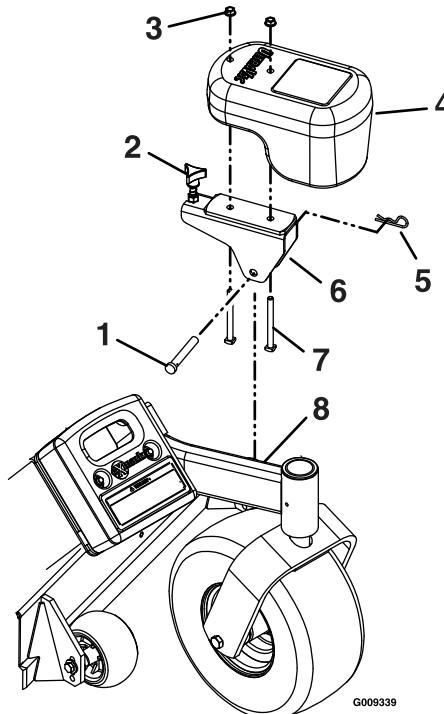

Figure 9
- A. Assemble the caster weights to the brackets as shown in Figure 9.
- B. Install the removable caster weights on the caster arms (see Figure 9).